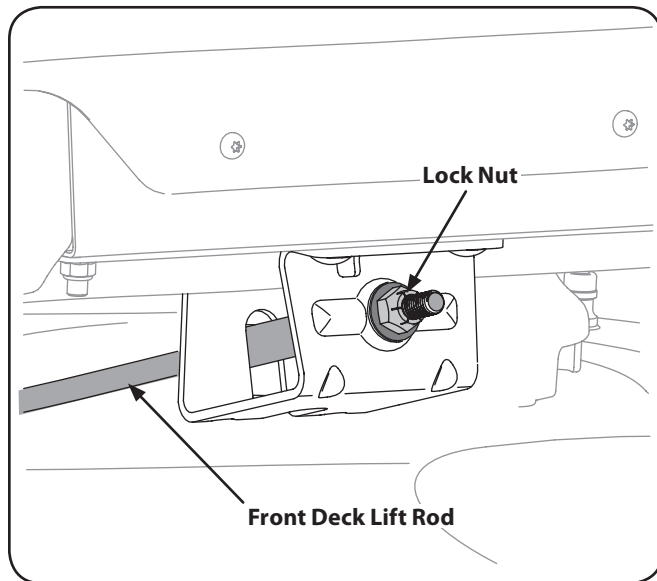

Figure 6-5
- Using a wrench, raise or lower the front of deck by turning lock nut on the front deck lift rod. See Figure 6-5.